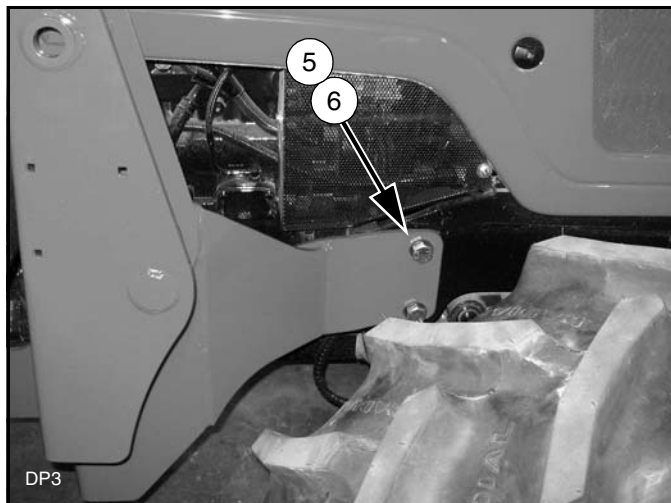

Figure 4. Right Rear Mount Installed, Tractor Frame
2. Use two cap screws (5) and hardened flat washers (6) to secure right mount to tractor frame. See Figure 4.